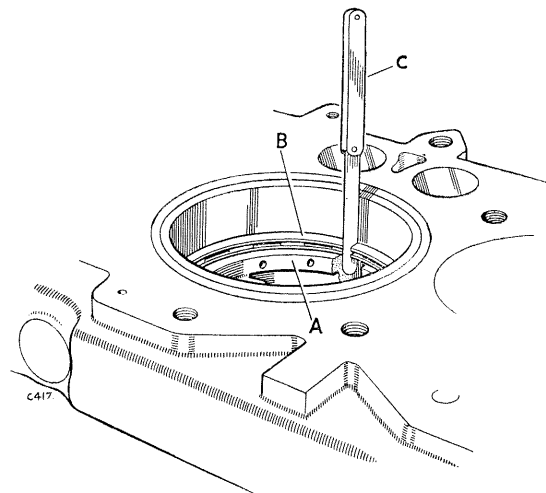

Fig. A-74—Checking piston ring gap
2. Check the piston ring gaps in the liner bores, using an old piston as illustrated in Fig. A-74, to keep the rings square in the bore.